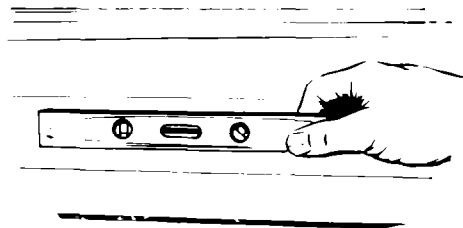

Figure 8
4. Move the dryer to its operating position and check the level of the machine using a small spirit level. The dryer can be leveled from side to side and front to rear by adjusting the four leveling legs. See Figure 8.